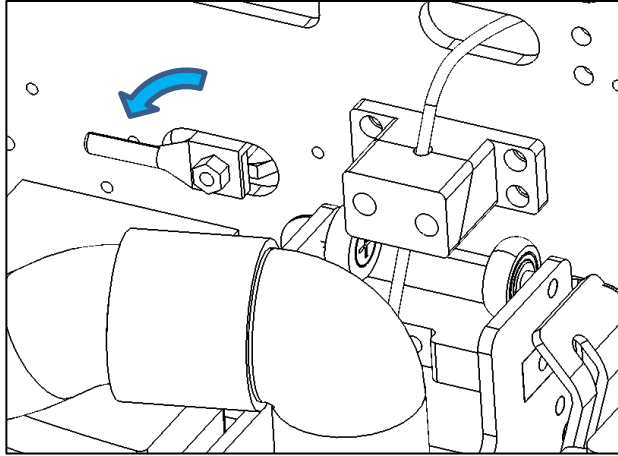

Fig. 3
4. Plug the pipes back onto the new water filter before opening the valve (Fig. 3).